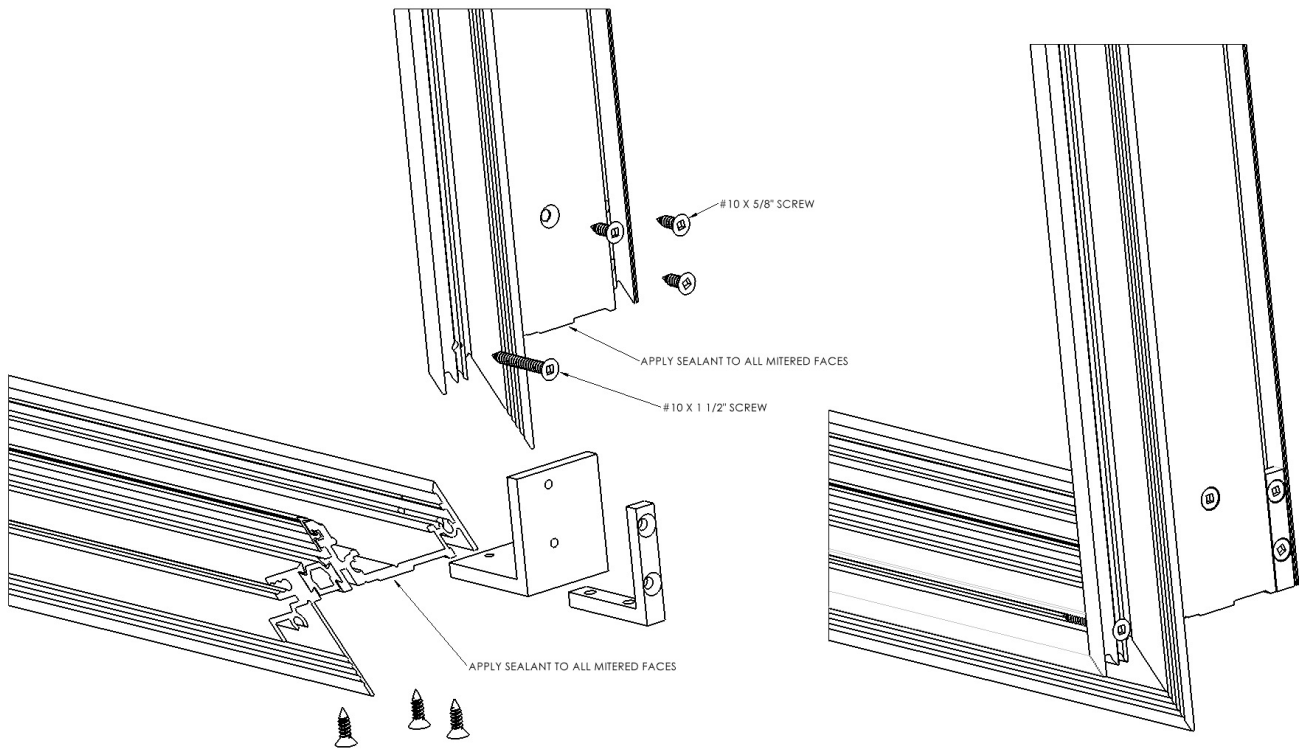

Figure 15\*\*\*
7. Assemble the corners of the perimeter frame using the two keys and #10 x 5/8" screws. Apply a generous coat of Dow 795 sealant or equivalent to each mitred face. For perimeter frames with a nail fin, an additional screw will be used on the outer corner. (See Figure 15)